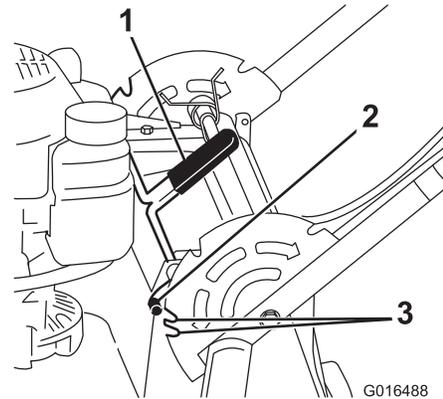

Figure 16
1. Lift the handle slightly and pull the handle-lock lever rearward to disengage the handle-lock pins (Figure 16).
2. Rotate the handle and align the desired notch in the handle bracket to the handle-lock pins; refer to Figure 16.